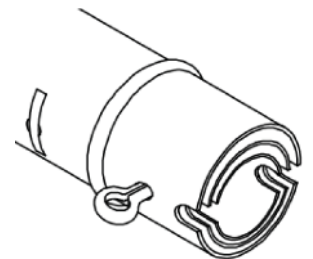

Fig 2 Shipping Pin
3. Remove shipping pin (fig 2) from bottom of mast and the small screw from the top lock rings. Slide the top guy support and the top guy plate off the mast and replace them in opposite order. Screw the lock screws (from the accessory bag) into the lock rings, making sure that the lock screw just protrudes into the top hole in each mast section, except the top section which will have its lock ring tightened 300mm below antenna position (fig 3). Install thimbles in the guy plates and attach the guy wires with wire rope grips. Three wire rope grips should be used at each end of the guy wire. Fit the bridge of the wire rope grip to the loaded part of the rope (fig 4).